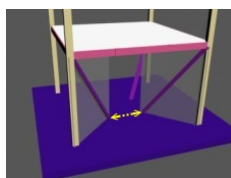
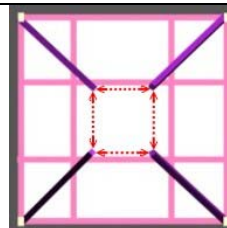

Figure 9.
Figure 10.
- 4.8.1 Materials inside the building, when viewed from vertical projection, need to have an opening for access, as in Figure 9. The dimensions marked by red arrows in Figure 10 have to each be at least 5 cm.